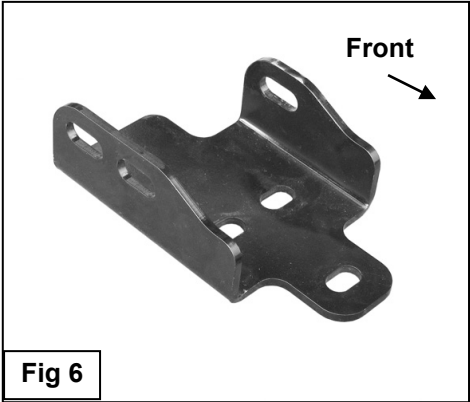

Fig 6
2. Select (1) Frame Bracket, **(Figure 6)**. Insert the Bracket through the opening in the plastic bumper, **(Figure 5)**. Line up the (3) holes in the Bracket with the holes in the end of the frame.